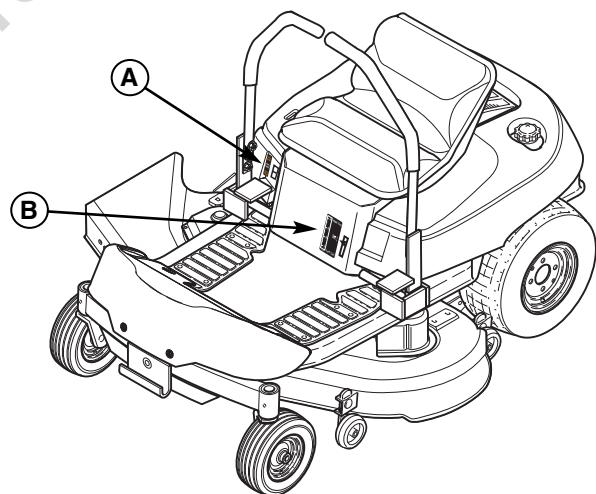

Figure 33. Cutting Height Adjustment
To increase the mower cutting height (raise the mower deck), press the top of the mower cutting height switch (A, Figure 33). To decrease mower cutting height (lower the mower deck), press the bottom of the switch. Mower cutting height range is 3-3/4" to 1-1/2" (9.5-3.8 cm). The cutting height gauge indicates the position of the mower deck. The cutting height gauge (B) is located on the front of the rider, just behind the driver's left leg.